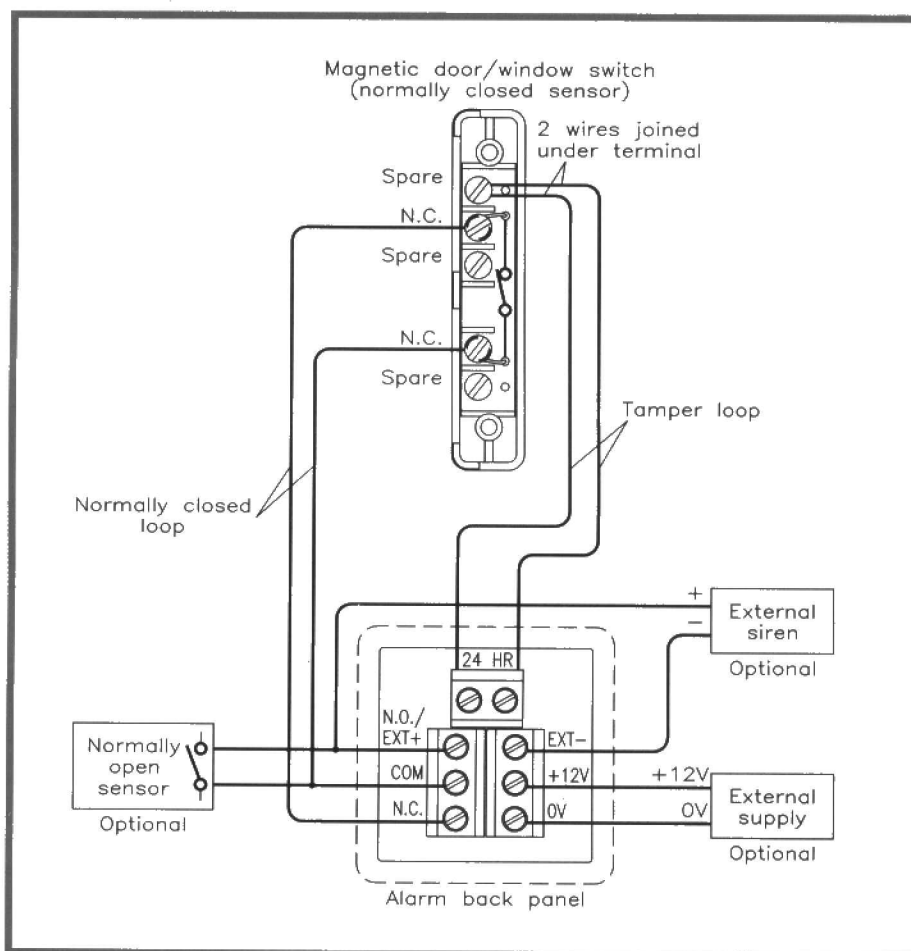

Figure 2. Wiring diagram showing alarm back panel and wiring up of magnetic door/window sensor.
The wiring diagram is given in Figure 2, and shows how to wire up one pair of wires to the Normally Closed (NC) contacts on the sensor. The other pair of wires, which are for the 24-Hour Loop are joined together on a spare contact. When wiring up the sensor, make a note of the colour coding used on the cable. Tack the cable in position, out of view if possible, and route it to the alarm control unit. Before cutting the cable, ensure that there is sufficient slack cable at the alarm control unit end to allow the connections to be made.
At the alarm control unit end the wires are connected as shown in Figure 2, with the Normally Closed (NC) Loop wires connected to 'NC' and 'COM' terminals – make sure that the shorting link has been removed. The tamper '24-HR' Loop wires which have been connected together on the sensor, are wired to the '24-HR' terminals on the unit – again make sure that the link has been removed first.